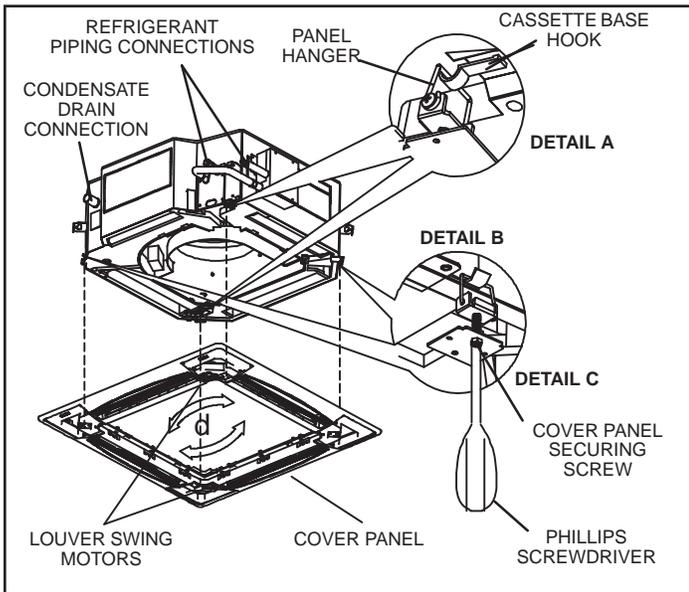

Figure 15. Install Cover Panel
5. Locate the cover panel hangers on the two corners with the louver swing motors. Place these two hangers on the corresponding hooks on the corners of the cassette base. See detail A in figure 18. Then, place the other hangers from the other two corners over their corresponding hooks on the cassette base as shown in detail B in figure 15.
9. Tighten the provided screws in the bracket in the cover panel immediately below each panel hanger. See detail C in figure 15. Adjust the cover panel by turning slightly clockwise, if necessary, to make sure that the panel is properly aligned with the cassette base.